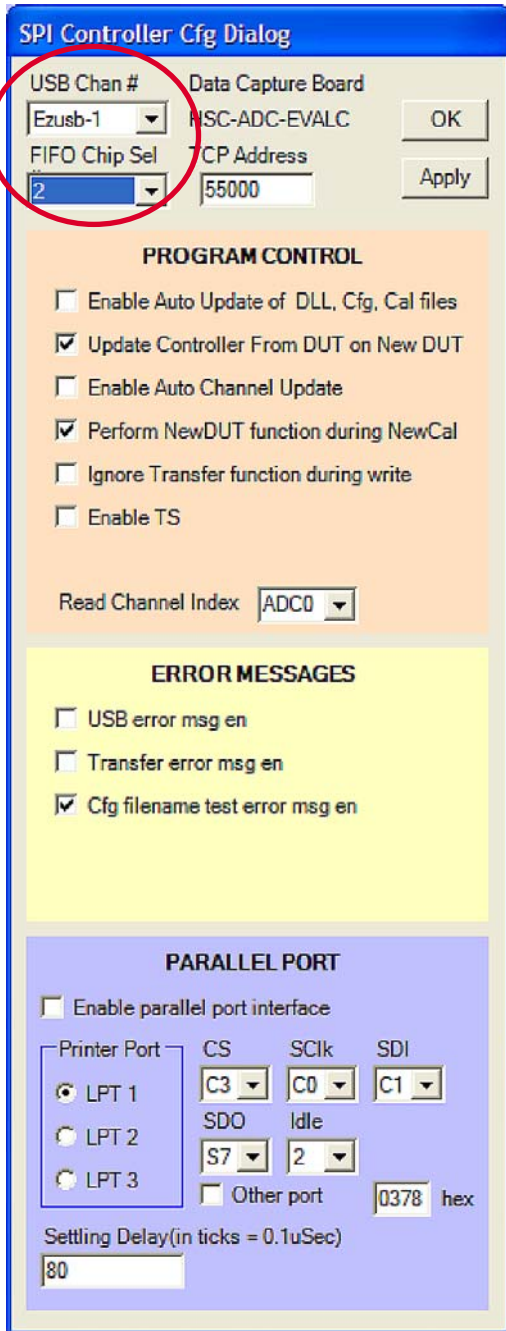

Figure 8.
3. Select **Config** and then **Controller Dialog** and make sure that **FIFO Chip Sel** is set to **2** and that **USB Chan #** is set to the same value as the AD9261 SPIController **Cfg** dialog (see Figure 8).